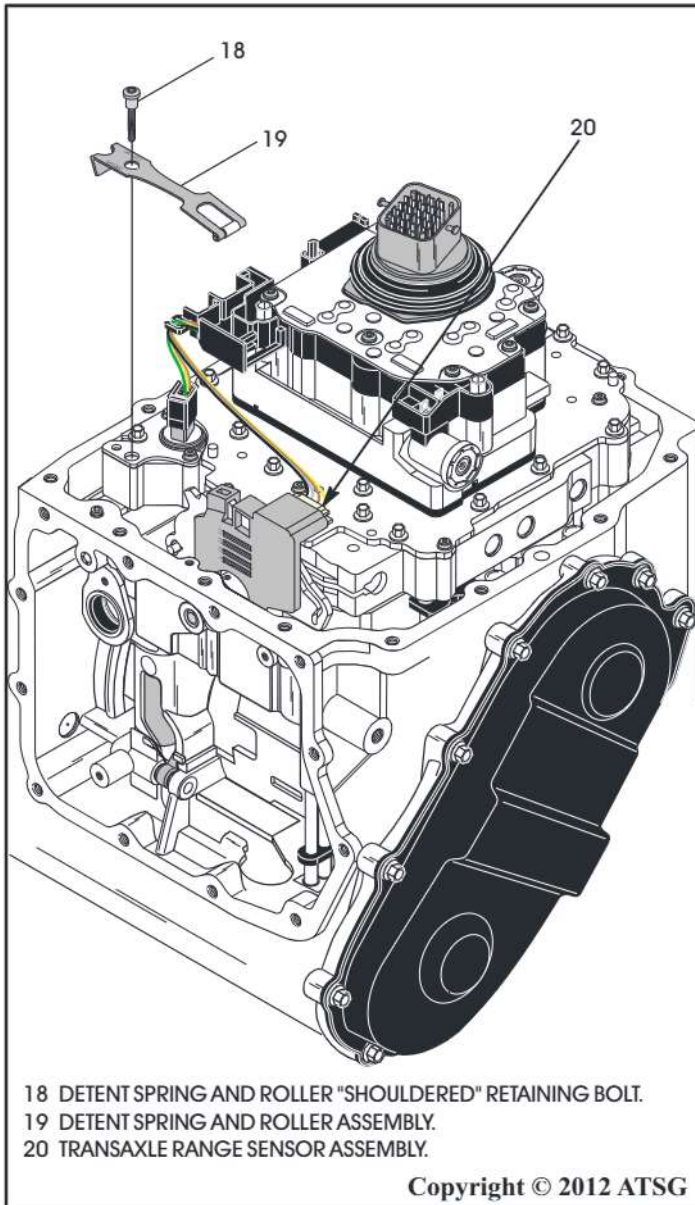

Figure 48
17. Remove the "shouldered" bolt retaining the detent spring and roller assembly, as shown in Figure 48, using a 25 torx bit.
18. Remove the detent spring and roller assembly, as shown in Figure 48.
19. Disconnect the electrical connector from the transaxle range switch, as shown in Figure 48.